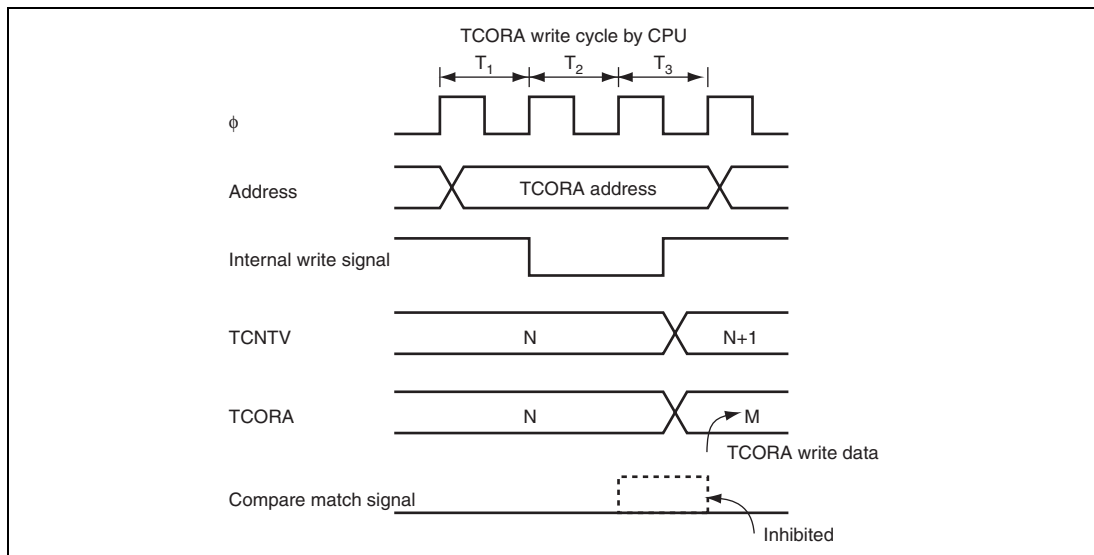

Figure 12.12 Contention between TCORA Write and Compare Match
2. If a compare match is generated in the T3 state of a TCORA or TCORB write cycle, the write to TCORA or TCORB takes precedence and the compare match signal is inhibited. Figure 12.12 shows the timing.